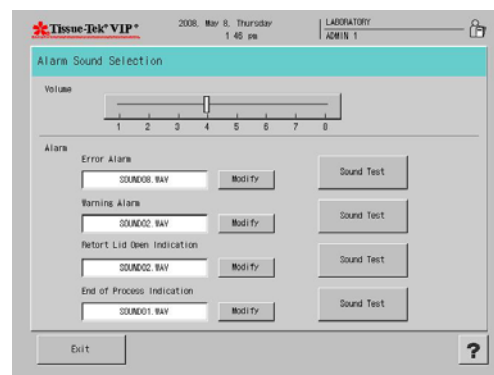

Figure 3-R
- The Alarm sound screen displays (Figure 3-R).